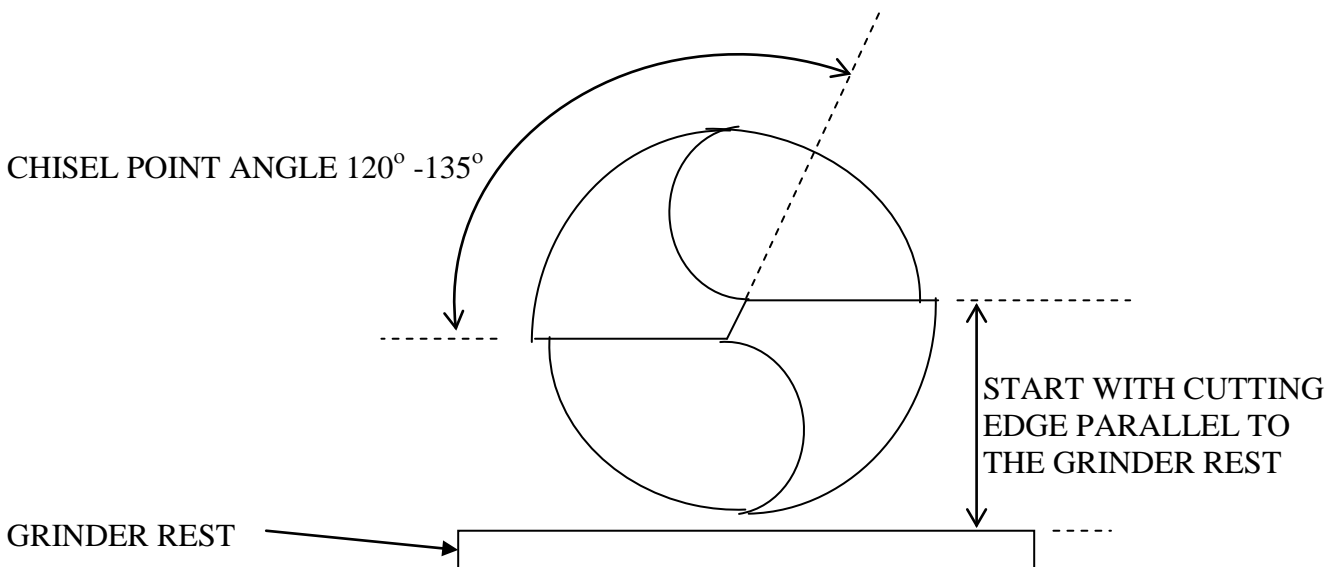
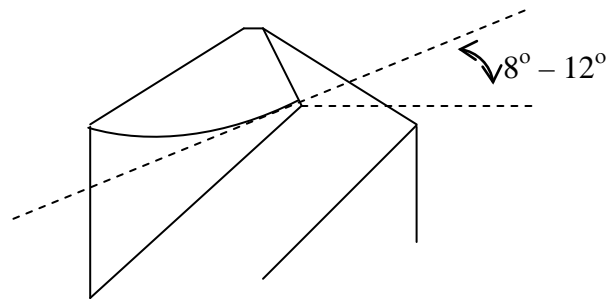

Figure F-2
Figure F-5
3. The cutting edge of the drill should be parallel to the top of the grinder rest as in figure F-2.
Repeat this grind, alternating between cutting edges, until the cutting edges are sharp, both cutting edges make a 59° angle with the axis of the drill, lengths of both cutting edges are equal, and there is an 8° to 12° lip clearance as in figure F-5. The chisel point should be straight and from a 120° to 135° angle with the cutting edges as in figure F-2.
No lip clearance at chisel point.-----	Not enough movement to left. (Fig. F-2)